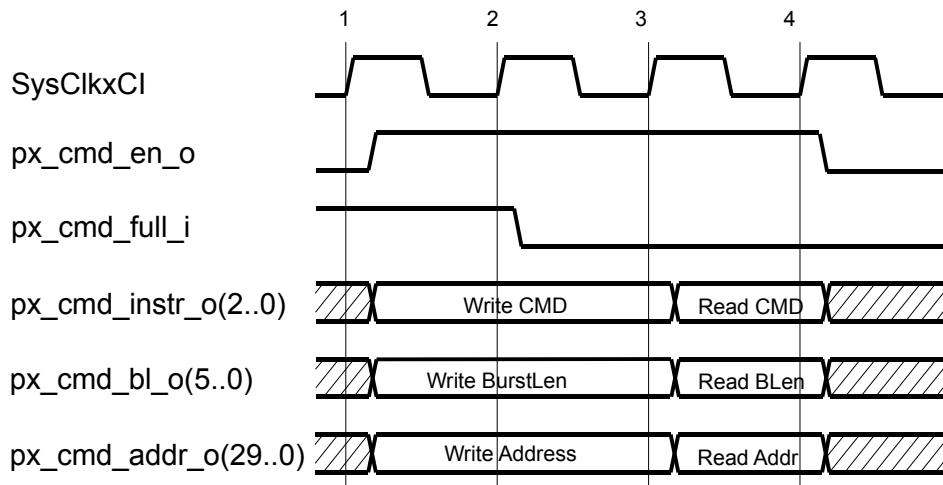

Figure 8: MemoryBus Command Cycle
Figure 8 shows a timing diagram of valid MemoryBus command cycles. At the rising clock edge of **SysClkxCI** (1) the Custom Module issues a Write Command by asserting **px_cmd_en_o** = '1' and by setting **px_cmd_instr_o(2..0)** = "000". At the same time **px_cmd_bl_o(5..0)** and **px_cmd_addr_o(29..0)** are set to appropriate values.
The MCB indicates at clock edge (2) that it is not ready to accept new commands (**px_cmd_full_i** = '1') which forces the Custom Module to hold the command for another clock cycle. At clock edge (3) the write command transfer succeeds since **px_cmd_en_o** = '1' and **px_cmd_full_i** = '0'. The Custom Module is now free to remove the command from the MemoryBus Command Port or to issue a new command. In Figure 8 the Write Command is followed by a Read Command at clock edge (3). Since **px_cmd_full_i** is still '0' at clock edge (4) the read command succeeds immediately and **px_cmd_en_o** is de-asserted by the Custom Module as there are no further commands pending at the time.